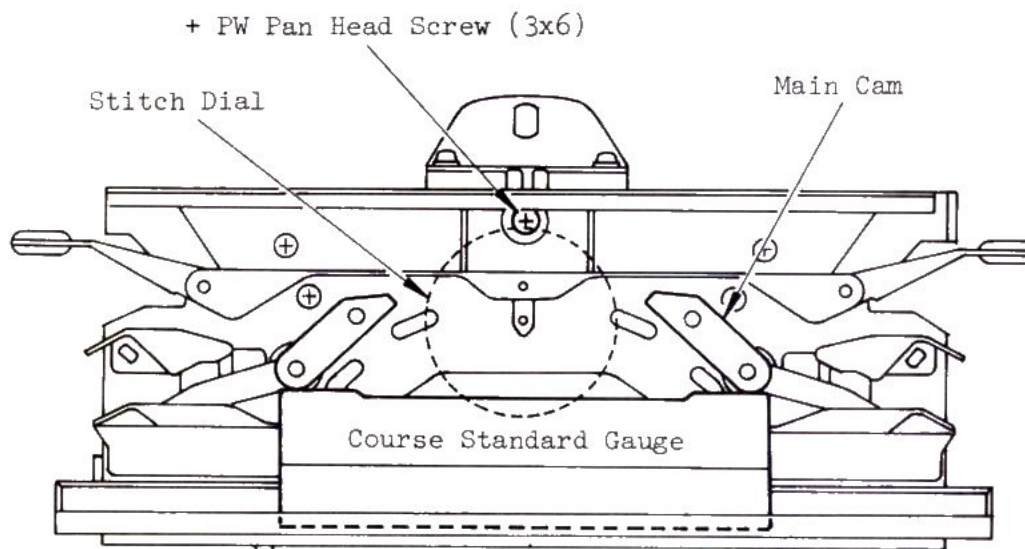

Fig. 38
- b) Loosen the + PW Pan Head Screw (3x6), indicated in Fig. 38 below, and turn the Stitch Dial so that the Main Cams move towards and touch the Course Standard Gauge. Once the Cams touch the Gauge, tighten the + Pan Head Screw (3x6).